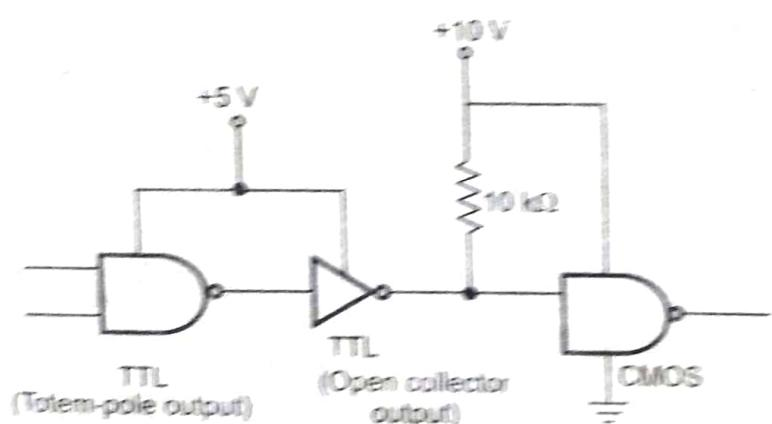

Fig. 7.39 Open collector buffer used as interface circuit
1. When the TTL output cannot be pulled up to V_{DD} , one can use open collector buffer as an interface between totem-pole TTL output and CMOS operating at $V_{DD} > 5V$, as shown in the Fig. 7.39.